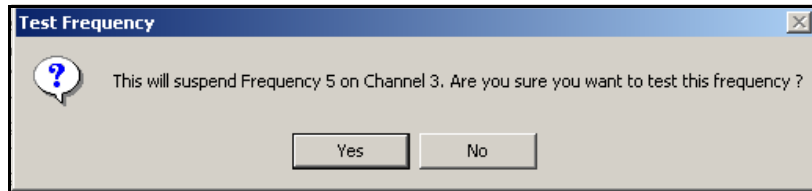

Figure 55: Test Frequency Prompt
2. A window similar to *Figure 55* below should appear, asking if you want to test the Frequency. Click on Yes.